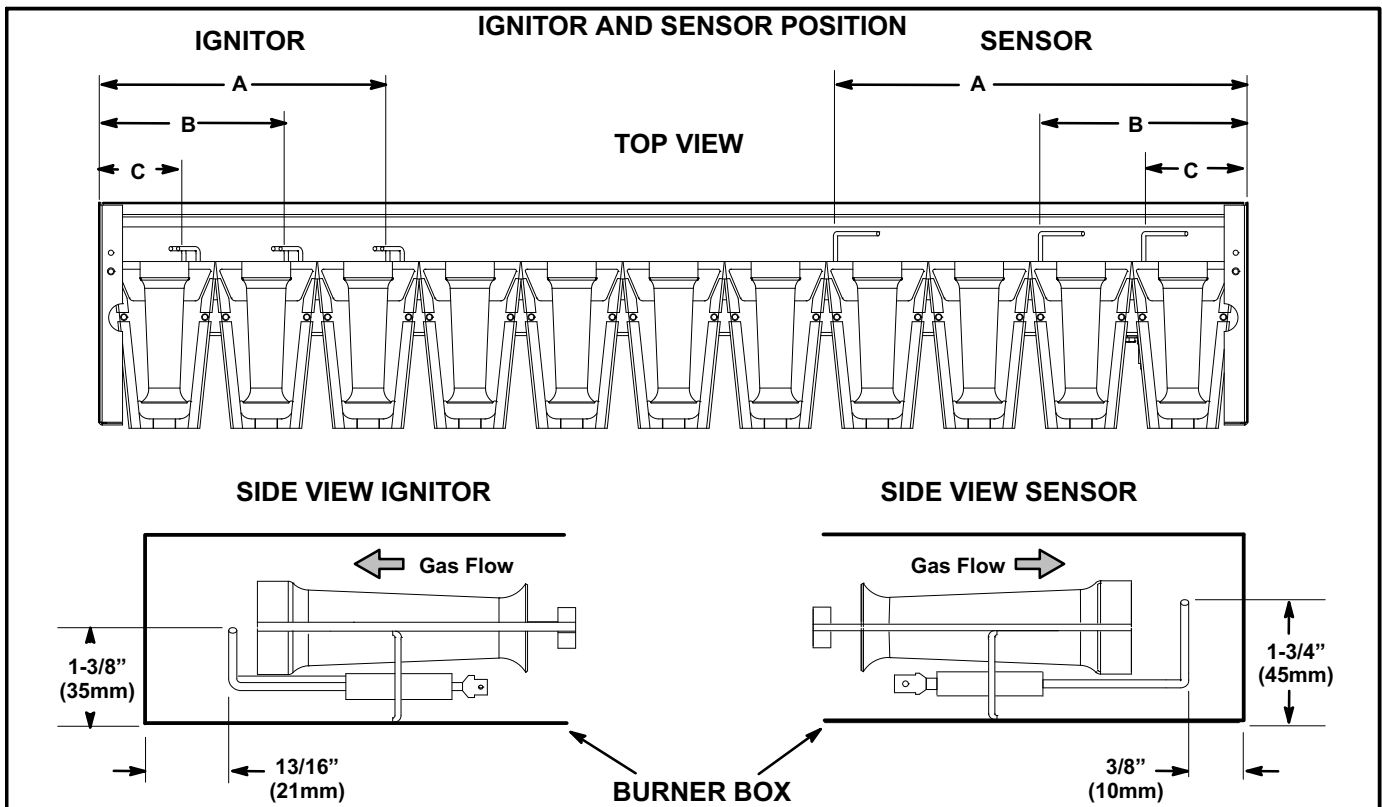

FIGURE 30
- 5- Check the alignment of the ignitor and the sensor as shown in figure 30 and table 20.